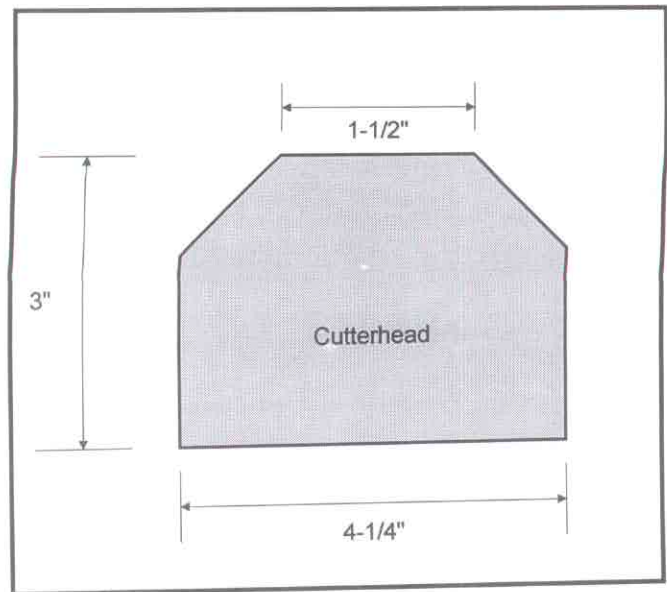

Fig. 10
3. Mark each block as shown in Figs. 10 and 11.